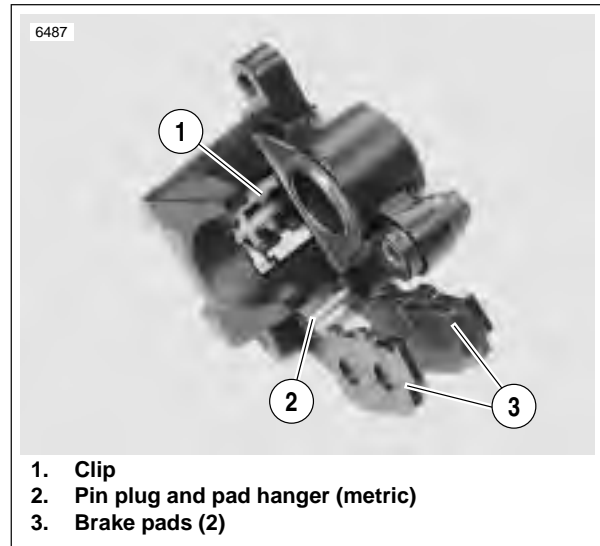

Figure 2-58. Brake Pads
2. See Figure 2-58. Remove spring clip (1).
1. See Figure 2-58. Place clip (1) inside caliper body as shown.
4. See Figure 2-58. Install brake pads (3) using pad hanger and pin plug (2).